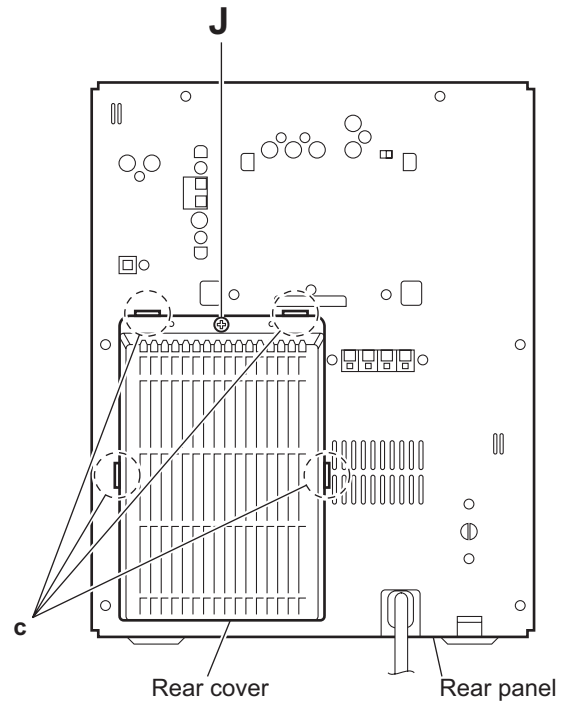

Fig.10
3.1.5 Removing the rear panel (See Figs.10 and 11)
- (1) From the back side of the main body, remove the screw **J** attaching the rear cover. (See Fig.10.)
- (2) Release the sections **c** and remove the rear cover from the rear panel. (See Fig.10.)